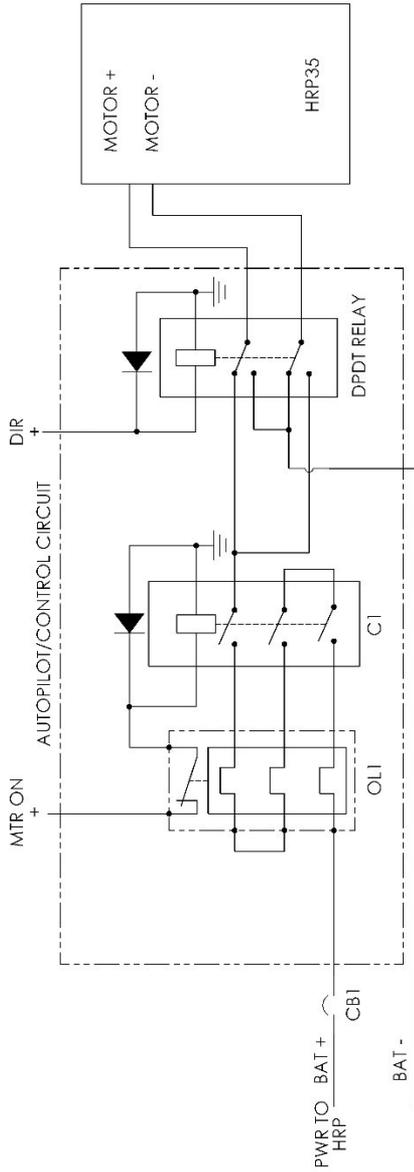

Figure 4: HRP Basic recommended wiring schematic
The minimum arrangement required to electrically operate the HRP is shown in Figure 4. This consists of a main contactor and thermal overload at “C1” and “OL1” respectively to provide the connection to the vessels main power supply. A secondary reversing contactor is required to reverse the polarity of the motor to provide bi-directional fluid flow. The input leads to the control circuit can be connected to an autopilot system as described in section 4.3.1 or a jog style control as described in section 4.3.2.
A circuit breaker, shown as “CB1” in Figure 4, is also required on the main power lead. This circuit breaker protects the equipment in the event of a short circuit, as the thermal overload will typically have a time delay before isolating the circuit. Sizing of the circuit breaker should be done as recommended by the thermal overload manufacturer to prevent damage to the overload during a large overcurrent condition. The circuit breaker must be sized so it’s fast acting portion (Magnetic trip curve) will protect the overload in the event of a short circuit or severe overcurrent. Heed must be given though to the maximum hard over current specified in Table 1, circuit breakers should be sized so the fast trip is above this value.
2. Observe the recommended thermal overload setting given in section 2.1, Table 1, and set the thermal overload, OL1 in Figure 4, to this value.